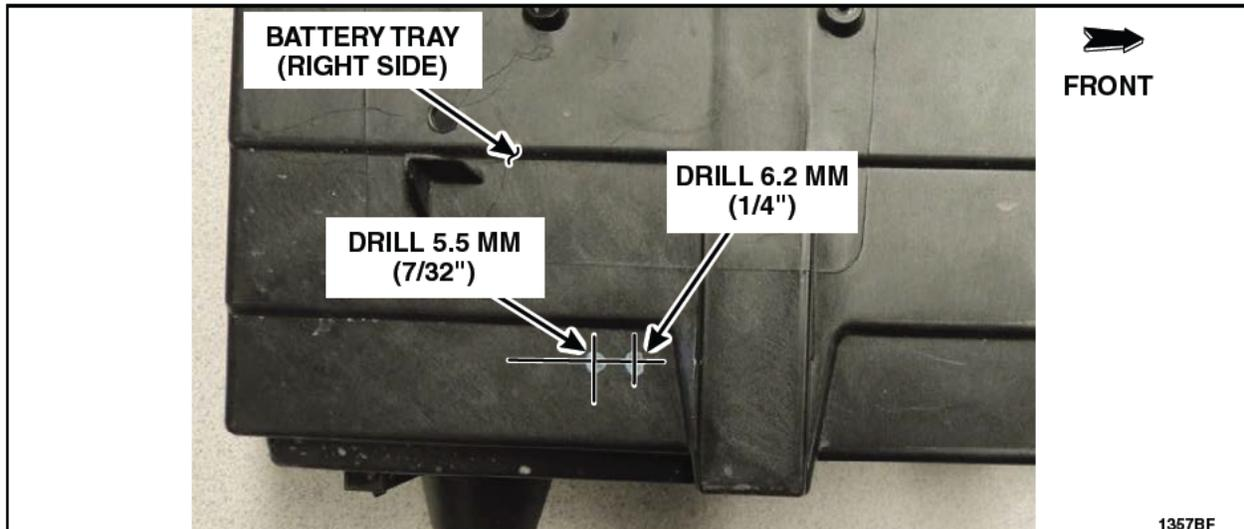

FIGURE C3
- Using the appropriate size drill bit for the two (2) remaining marked locations on the battery tray, 5.5 mm (7/32") and 6.2 mm (1/4") as indicated in Figure C3, drill the two (2) holes. See Figure C3.